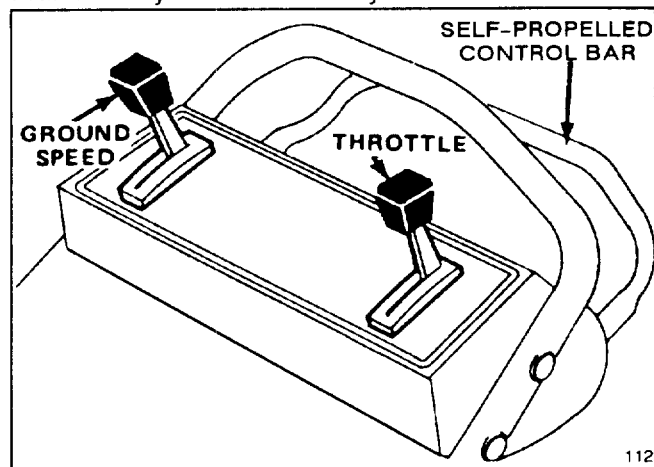
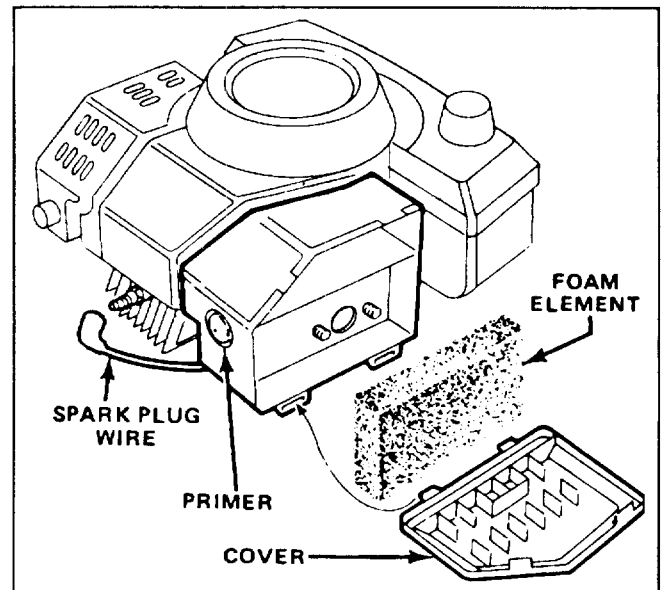

Figure 4
Figure 8
1. CONTROLS – Ground speed control, throttle, and blade/self-propelled control bar are on upper handle (Fig. 4). Fingertip starter is on top of engine.
2. Push spark plug wire onto spark plug (Fig. 8).
3. STARTING – Move ground speed control to "N" and throttle to  (CHOKE) (Fig. 4). Cover hole in center of primer with thumb and push once (Fig. 8). Brace yourself and mower securely by placing your foot on the top left side of mower housing where it says "PLACE FOOT HERE WHEN STARTING". Pull fingertip starter out until positive engagement results; then pull vigorously to start the engine. After engine starts, remove throttle from  (CHOKE) and regulate as desired.
4. **GROUND SPEED** – Move ground speed control (Fig. 4) to desired setting. Number “1” is slow, “2” is medium, and “3” is a fast walking pace. Move ground speed control to  when using the mower for trimming and whenever leaving mower.
1. Stop engine and pull wire off spark plug (Fig. 8).
2. Lift tabs at top of air cleaner cover and pivot cover down. Clean cover thoroughly (Fig. 8).
3. If outside of foam element is dirty, remove it from air cleaner body (Fig. 8). Clean thoroughly.